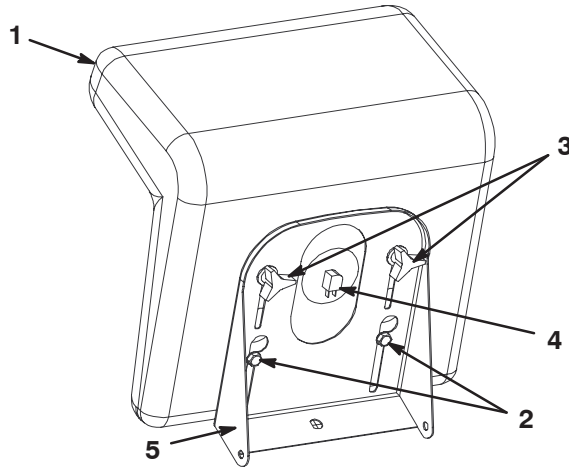

Figure 3
1. Position the seat onto the seat base by inserting 2 shoulder bolts through the key hole openings at the end of both slots (Fig. 3).
2. Thread the knobs and flat washers through the slots and into the rear center holes in the seat (Fig. 3).
4. Connect the seat switch to the wire harness connector (Fig. 3).